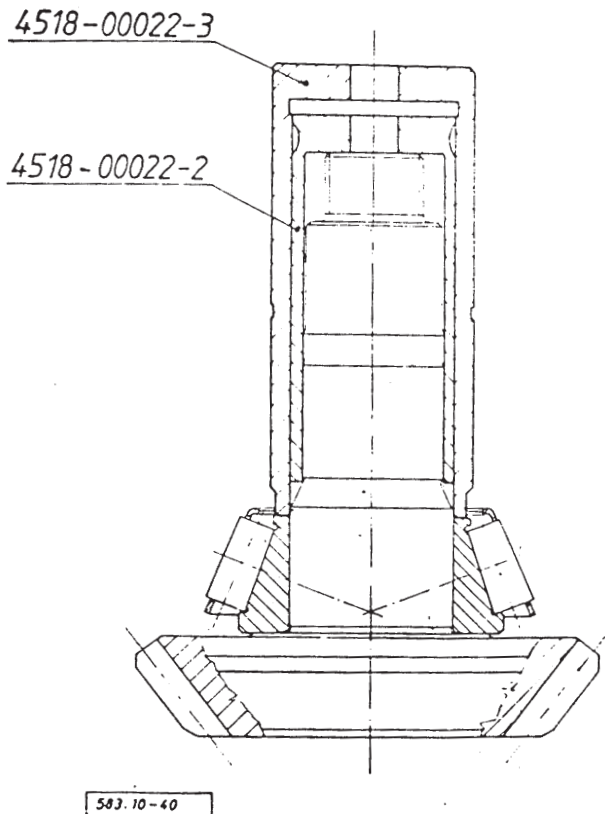

Fig. 8.: DRIVING ON THE INNER TAPER ROLLER BEARING CONE
By means of the tools shown drive the inner race of the inner taper roller bearing (12) onto the drive pinion (Fig. 8.).